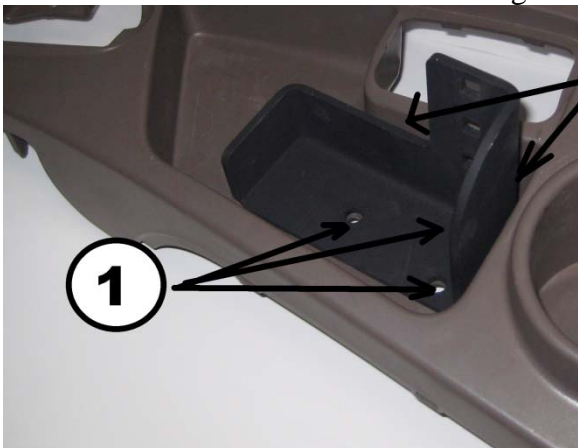

Figure 3. Positioning of Bracket
- 2/ Align the mounting bracket with the right end of the center pocket as indicated in Figure 3. Leave approximately 1/4" inch (6 mm) clearance to two sides of the pocket. Bracket should be parallel to right end of pocket as shown. Mark 3 holes for drilling.